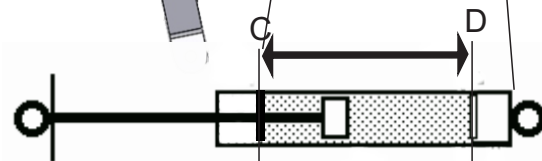

Figure 2
- Fit coupler box (3) to the draw bar (6), bolting where holes have been provided.
- Measure travel distance of shaft (2) and determine maximum travel distance of A - B
- Measure travel distance of the damper (5) , distance C - D in Figure 2.
- Position the damper (5) on the draw bar (6) ensuring that the distance from C-D is greater than the distance of A-B
- Weld the mounting lugs (7) in that position.